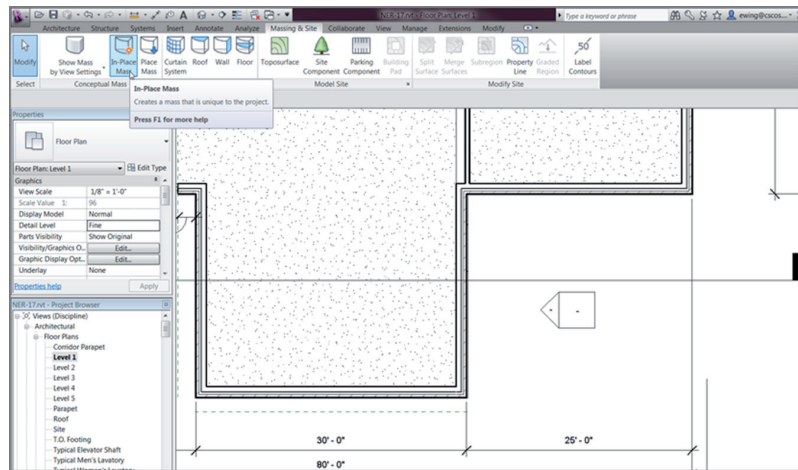

FIGURE BC1.38: Massing up your model
2. Zoom in on the area shown in Figure BC1.38.
3. On the Massing & Site tab, click the In-Place Mass button (see Figure BC1.38). Revit may throw a warning stating that it's turning on the mass visibility. This is good, so click Close.